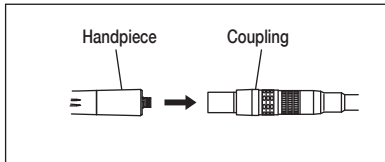

Fig. 38
- 2) Insert the handpiece firmly onto the coupling until it clicks to engage. (Fig. 38)